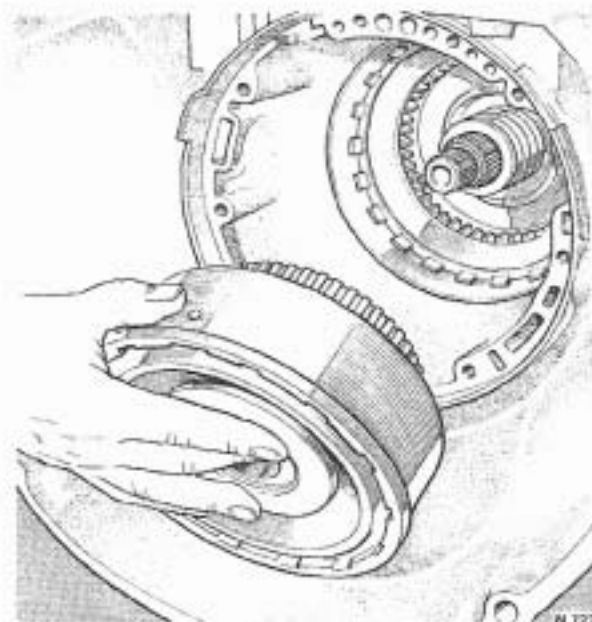

FIG. T241 REMOVING THE DIRECT CLUTCH AND INTERMEDIATE SPRAG ASSEMBLY
5. Withdraw the direct clutch and intermediate roller assembly (see Fig. T241). The sun gear shaft may come out with the direct clutch assembly.